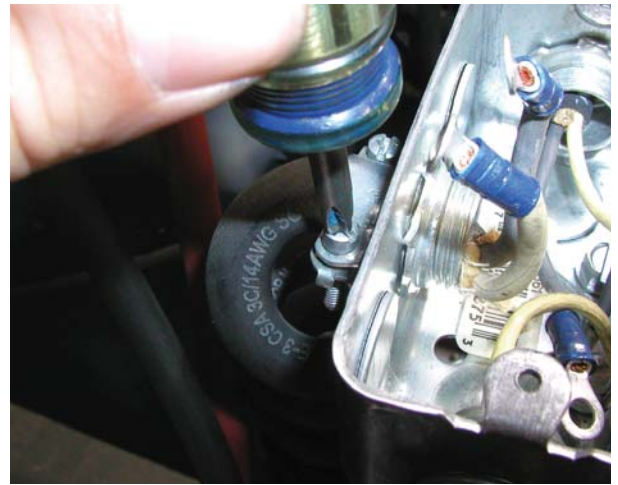

FIGURE 9
- Loosen the cable clamp and remove the coil cord from the alarm junction box. This cable will be reconnected later. See Figure 9.